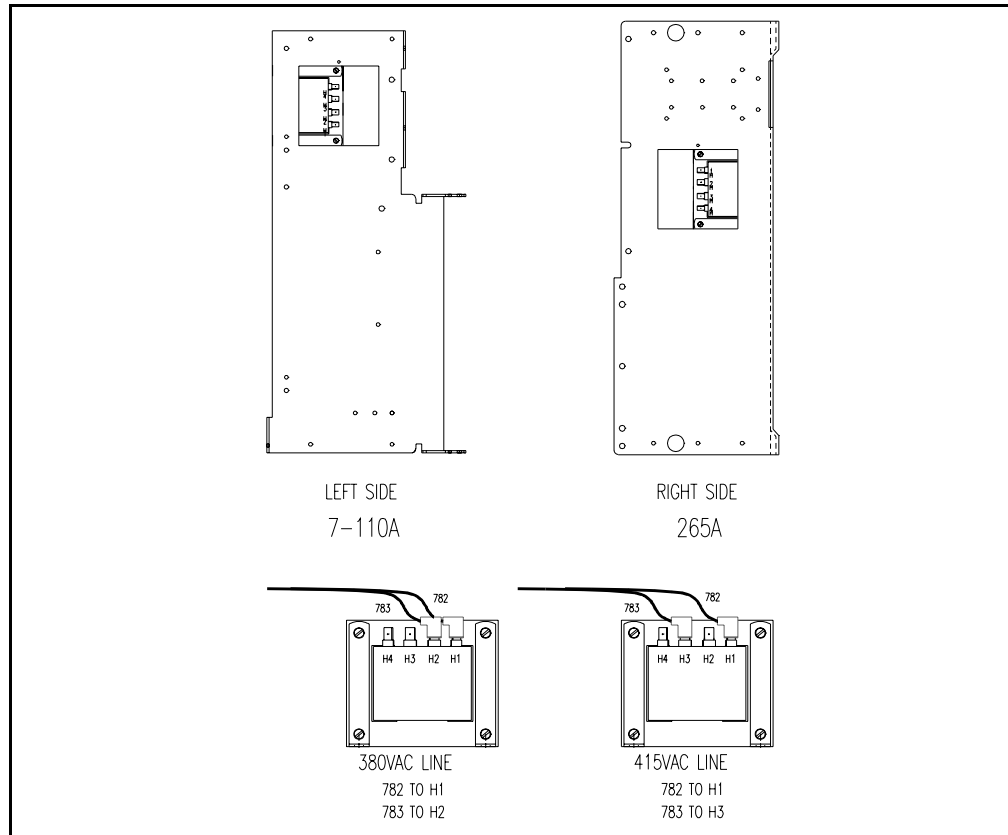

Figure 3.1 – Control Transformer Locations and Settings (380/415 VAC Drives)
- Step 2. Move wire 783 to terminal H2. See figures 3.1 and 3.2 for terminal locations.